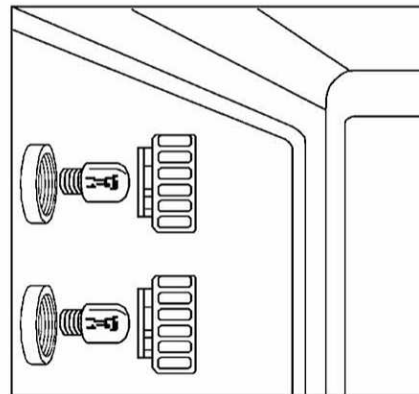

Fig. 6
**Replacing oven lamp** - Electrically switch off the appliance; unscrew the protective glass cap (Fig. 6); unscrew the lamp and replace it with another lamp suitable for high temperatures (300°C), with the following characteristics: